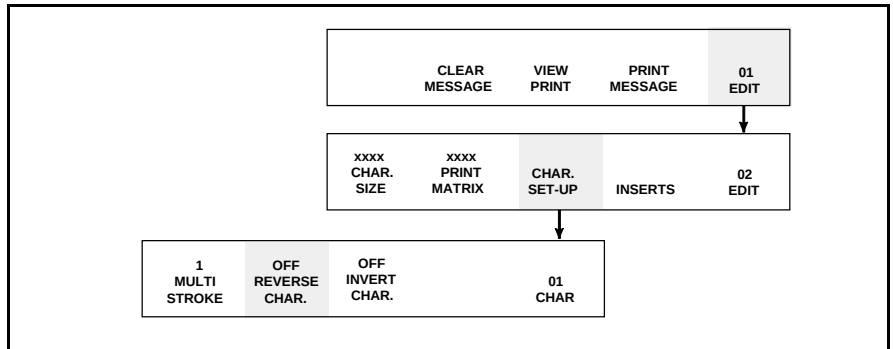

Figure 6-7. Accessing Frame <01 CHAR>
2. Begin in Frame <01 CHAR>. Refer to Figure 6-7.